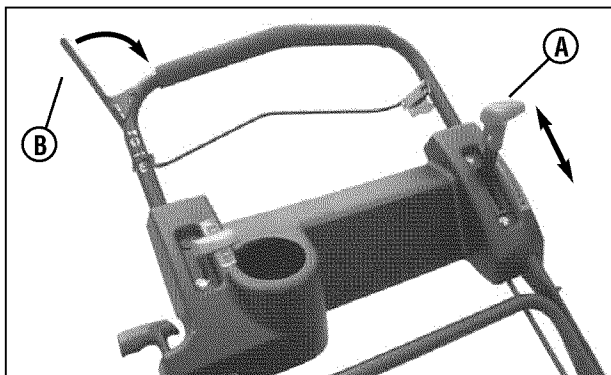

Figure 5: Mower drive controls
2. Move the ground speed control (**A**, Figure 5) to the desired speed position.